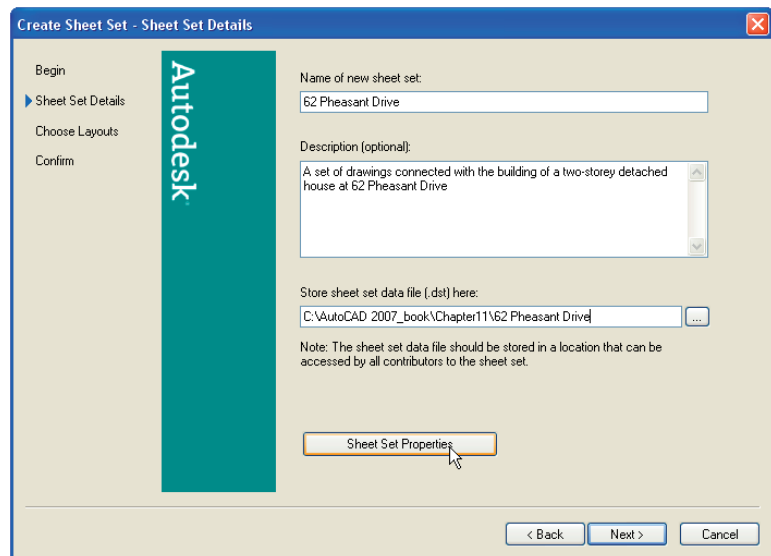
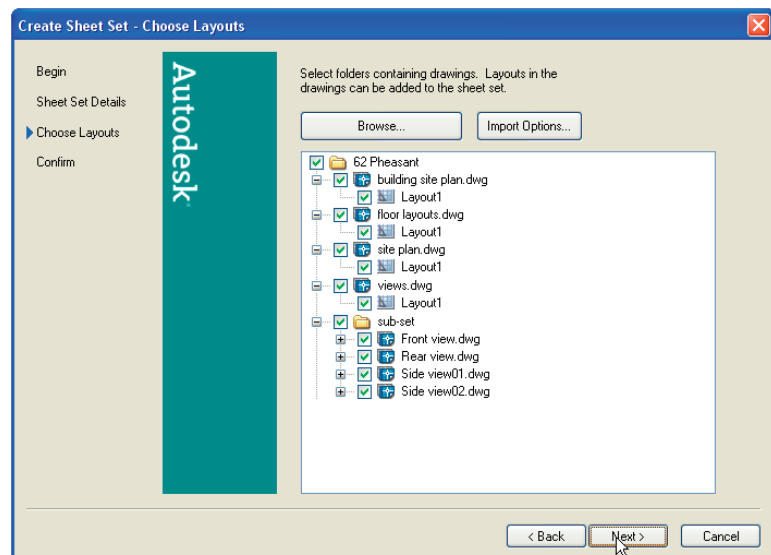

Fig. 11.5 The **Sheet Set Details** dialog
Fig. 11.6 The **Choose Layouts** dialog
by a *click* on the **Next** button and the next dialog **Sheet Set Details** appears (Fig. 11.5).
4. Enter details in the dialog as shown in Fig. 11.5. Then *click* the **Next** button to bring the **Choose Layouts** dialog to screen (Fig. 11.6).
Choose Layouts dialog (Fig. 11.6). If satisfied the list is correct, *click* the **Next** button. A **Confirm** dialog appears (Fig. 11.7). If satisfied *click* the **Finish** button and the **Sheet Set Manager** palette appears showing the drawings which will be in the **62 Pheasant Drive** sheet set (Fig. 11.8).